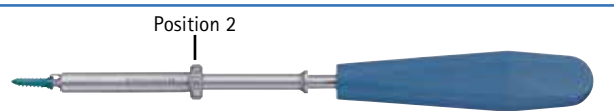

Fig. 33: Screw holding sheath in locked position
- In one fluid motion, push forward on the outer sheath until the free spinning screw removal tool reaches the midline of the ABC2 screwdriver (Fig. 33)